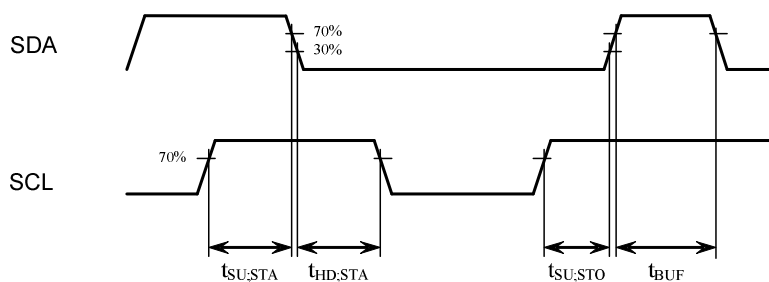
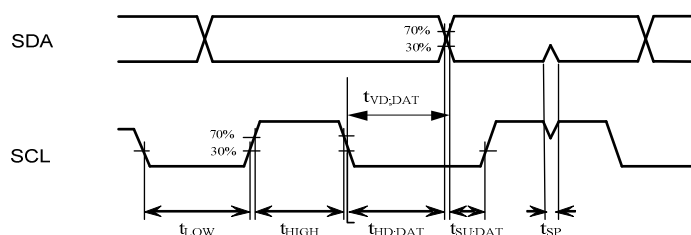

Figure 5 I2C Start and Stop timing
Figure 6 I2C Data timing
- (i) All timing specifications, Figure 5 and Figure 6, refer to voltage levels ( $V_{IL}$ ,  $V_{IH}$ ,  $V_{OL}$ ) defined in Table 5.